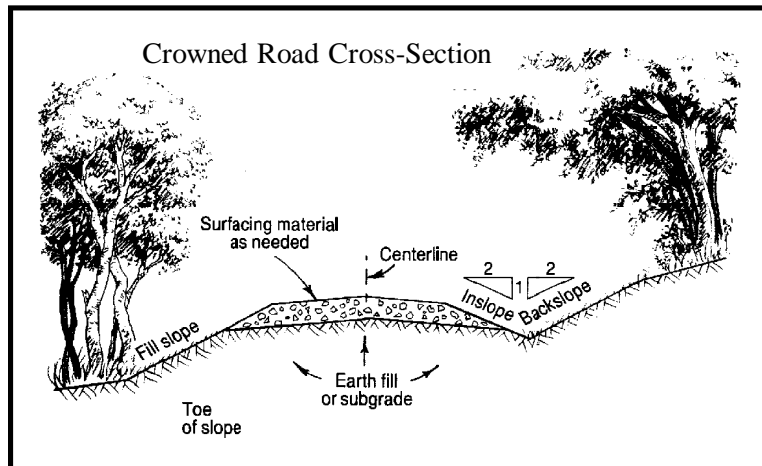

Figure ROAD-2
- ❑ Choices regarding road construction standards and maintenance activities will be influenced by site characteristics and the value of the resources served. Culverts and ditches may be necessary with any road construction technique. See Figure ROAD-2.